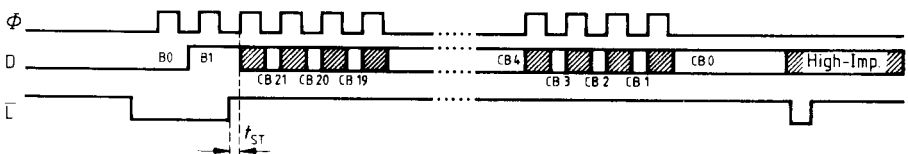

Figure 2a Presetting Count on NC
Test Operation (figure 2a, 2b, 2c)
a) Presetting of count (figure 2a)